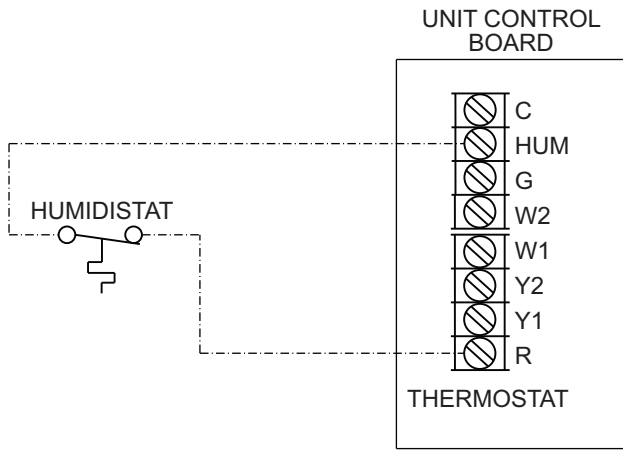

Fig. 37 — Humidistat Connections to UCB
3. Connect one of the leads from the 2-conductor cable to the HUM terminal on the UCB (Unit Control Board). Connect the other lead to the R terminal on the UCB. See Fig. 37.